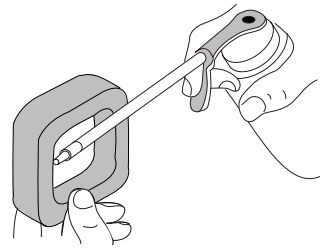

Figure 46
4. Apply enough clean SAE 30 motor oil to lightly coat the filter. See Figure 46.